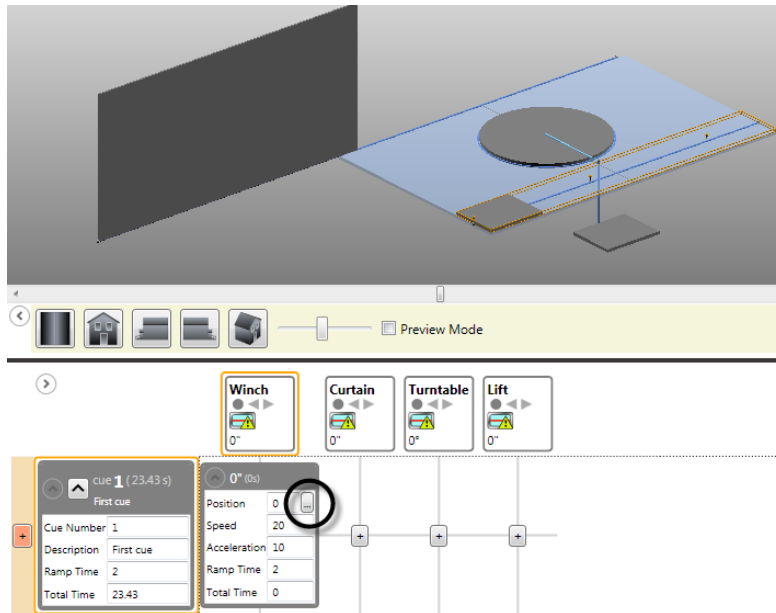

Figure 223
7. Click on the **Spike Position** button in the motor's movement window (Figure 223).